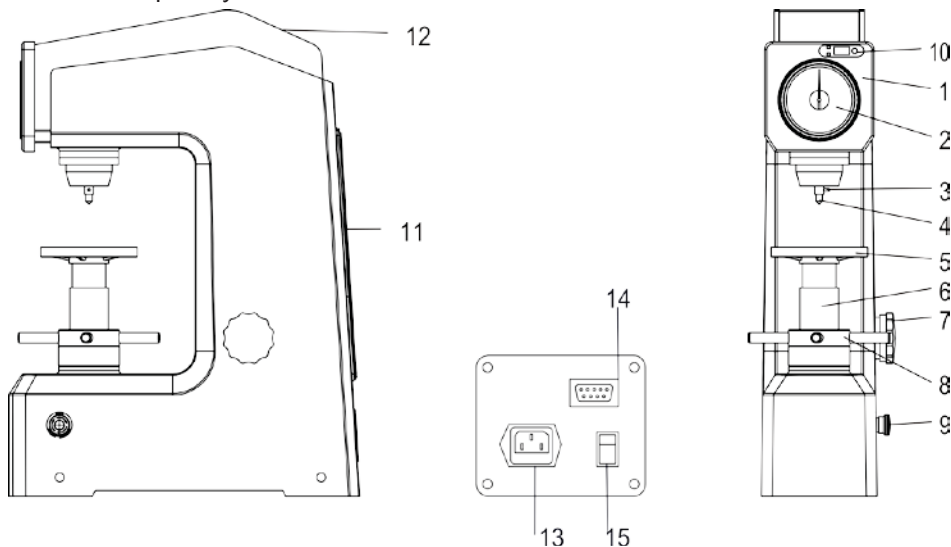

Fig 2
4.3 The placement of the hardness tester (Fig.2)